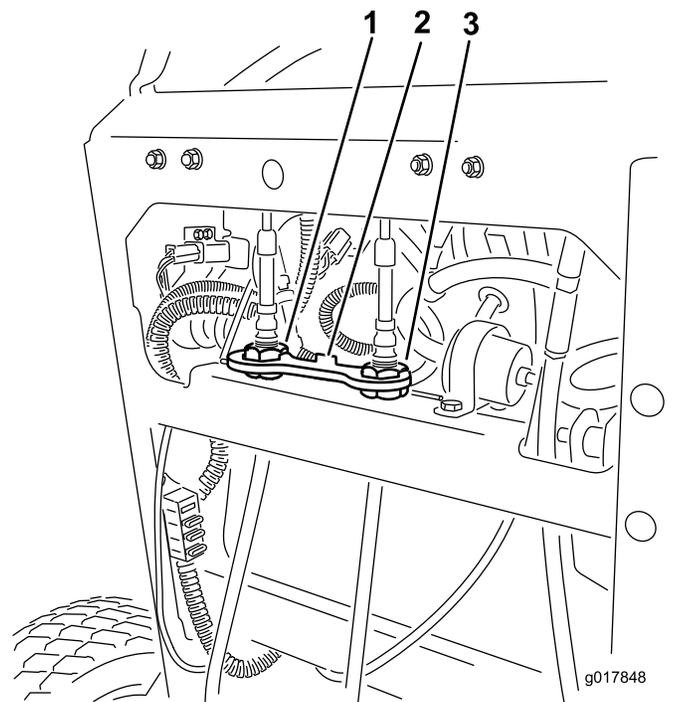

Figure 53
4. Rotate the right cable adjustment to position the right motion-control lever in the center of the control-panel neutral-lock slot (Figure 53).